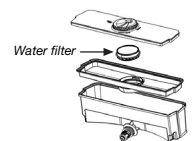

Figure 2.
- D. Level your refrigerator using the following instructions: (figure 2)
2. Place the tank on a flat surface and remove the cover by pulling upwards (see figure 2).